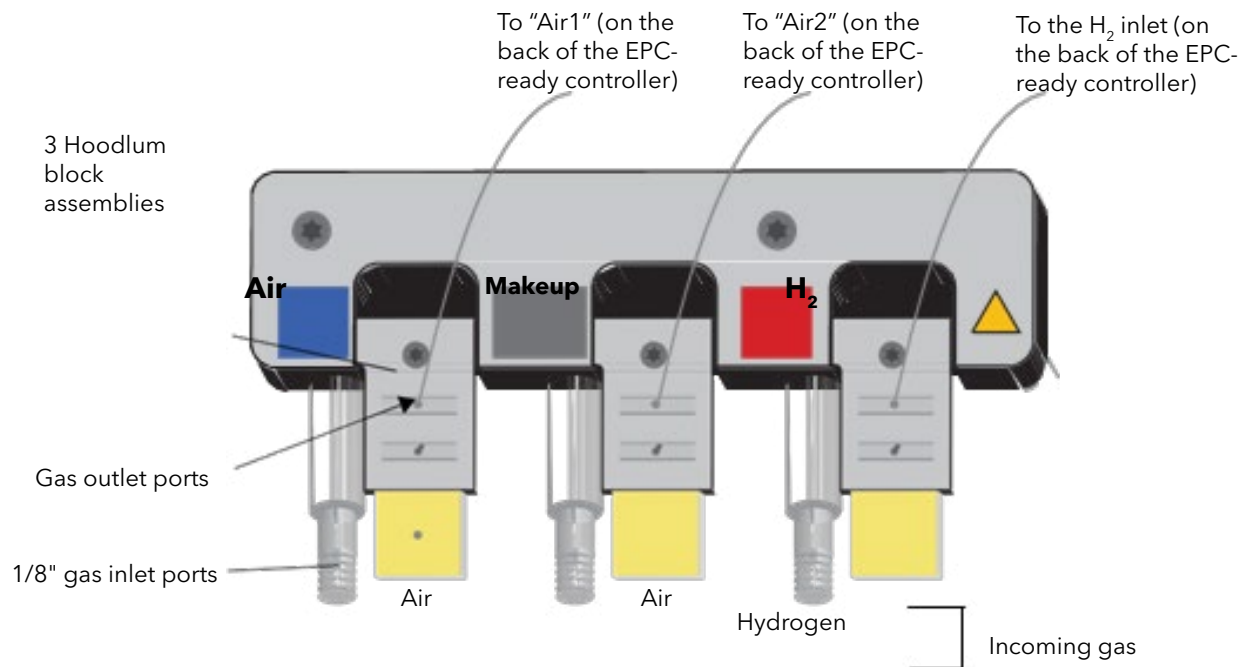

Figure 3.26. OIM Module Plumbing
- k. Connect the gases (see Figure 3.26).